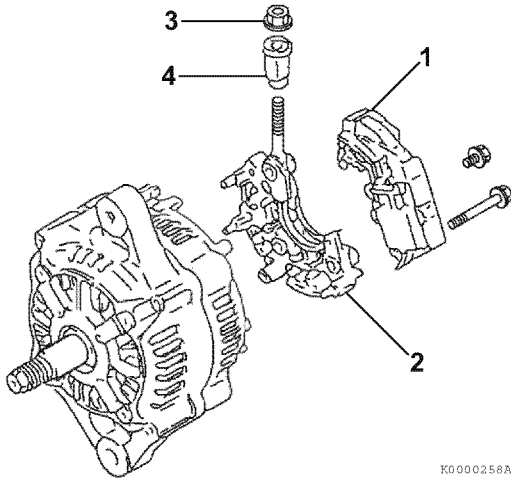

Figure 11-7
- Remove the bolt retaining the regulator assembly (1, **Figure 11-7**) to the holder (2, **Figure 11-7**).
- Remove the bolts retaining the holder (2, **Figure 11-7**) to the rear frame housing. Remove the holder.
- Remove the nut (3, **Figure 11-7**) retaining the insulation bushing (4, **Figure 11-7**). Remove the insulation bushing.